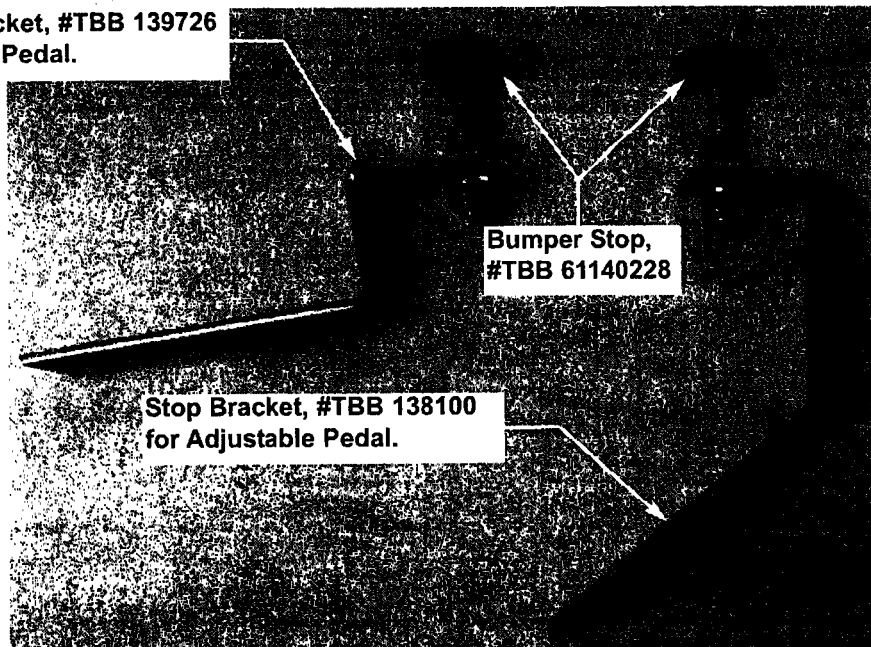

Figure 7
7. Locate new Brake Pedal Stop Mount Assembly, #TBB 138100 for Adjustable Pedal or #TBB 139726 for Fixed Pedal. Clamp in place. **Figure 7**